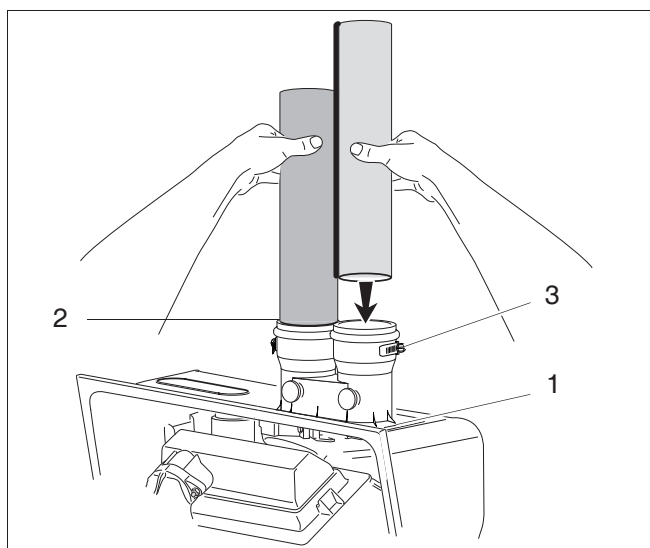

Fig. 16 Vent pipes
All vent pipes must be glued, except for the flue gas adapter (see fig. 16, pos. 1) which is screwed into place and the first connection to the flue gas adapter (see fig. 16, pos. 2). Installed you can slide the pipe onto the adapter, properly supported and the exhaust pipe must be pitched a minimum of a 1/4 inch per foot back to the boiler. This allows the condensate to drain away. Fix the screws (see fig. 16, pos. 3), this is obliged for Canada.